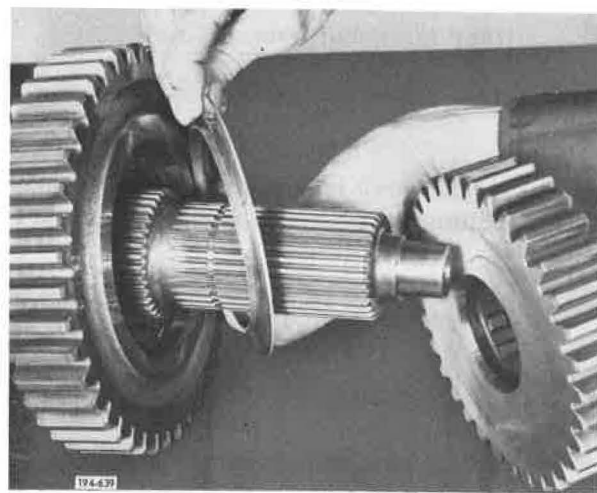

Figure 5-746. Removing Gear and Washer
5. Remove fourth speed gear and third speed gear flanged thrust washer. See **Figure 5-746**.